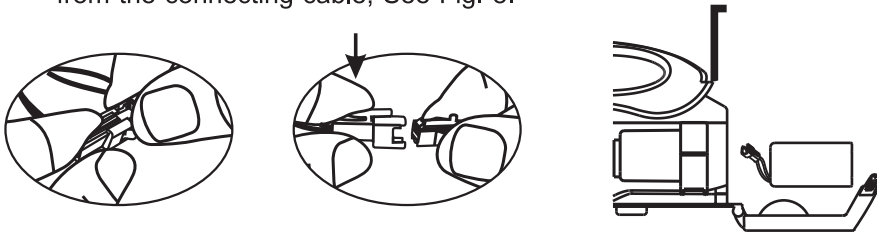

Fig. 8
- (C) Press and release the tabs to disconnect the rechargeable battery pack from the connecting cable, See Fig. 8.